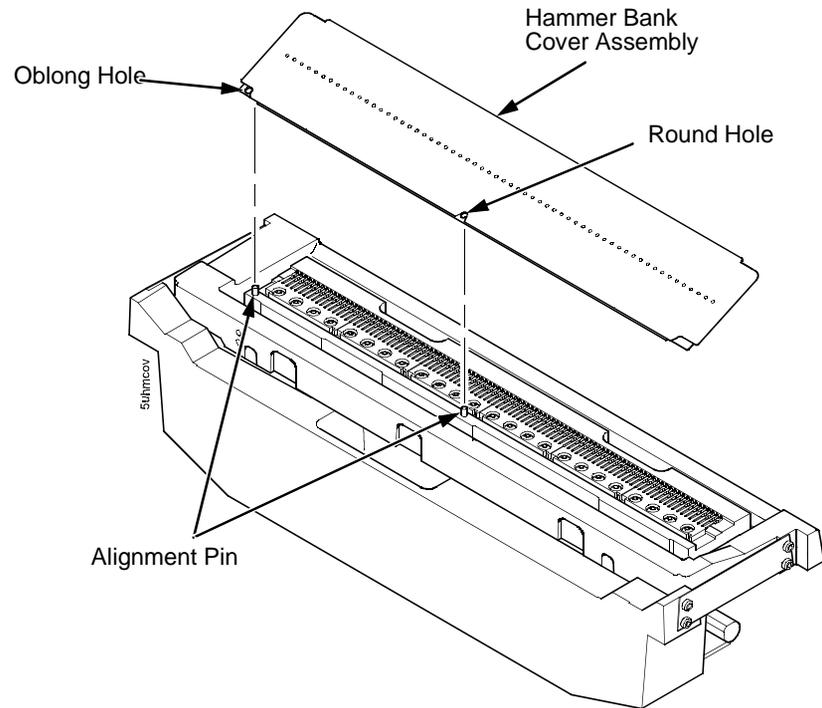

Figure 16. One-Piece Hammer Bank/Ribbon Mask Cover Assembly
Lift the thick plate of the hammer bank cover assembly at one end, and peel the cover away from hammer bank magnets. (See Figure 16, page 375.)
- a. With the thick plate facing the hammer bank, hold the hammer bank cover assembly at a slight angle and engage the bottom edge on the alignment pins. First engage the center (round) hole, then the left (oblong) hole, to ensure that the cover lies flat on the hammer bank. (See Figure 16, page 375.)